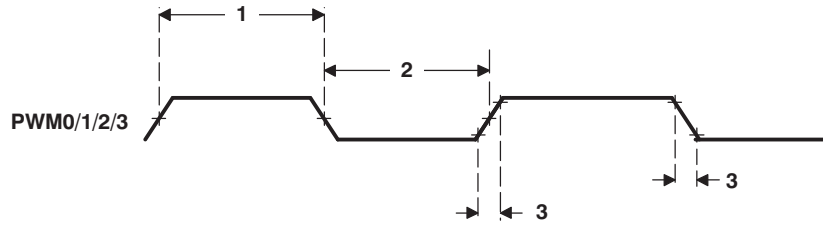
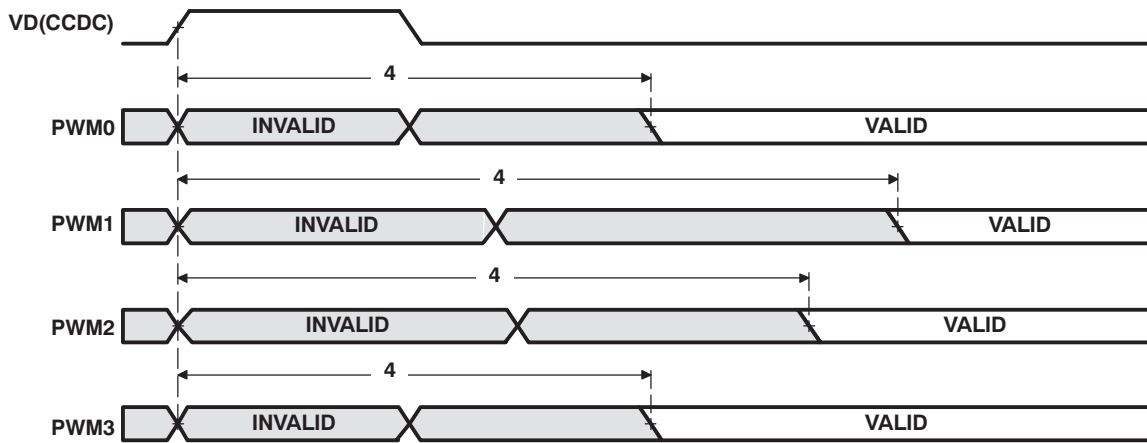

Figure 7-55. PWM Output Timing
Figure 7-56. PWM Output Delay Timing
**Table 7-86. Switching Characteristics Over Recommended Operating Conditions for PWM0/1/2/3 Outputs(1) (see Figure 7-55 and Figure 7-56)**